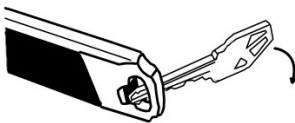

Figure 1
1. With a key or small screwdriver, press the black tab located at the bottom of the remote (fig.1) and slide the chrome trim off.